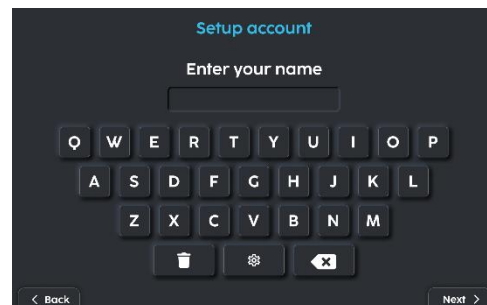

Fig. 4
4. Enter your account name (Fig. 4).